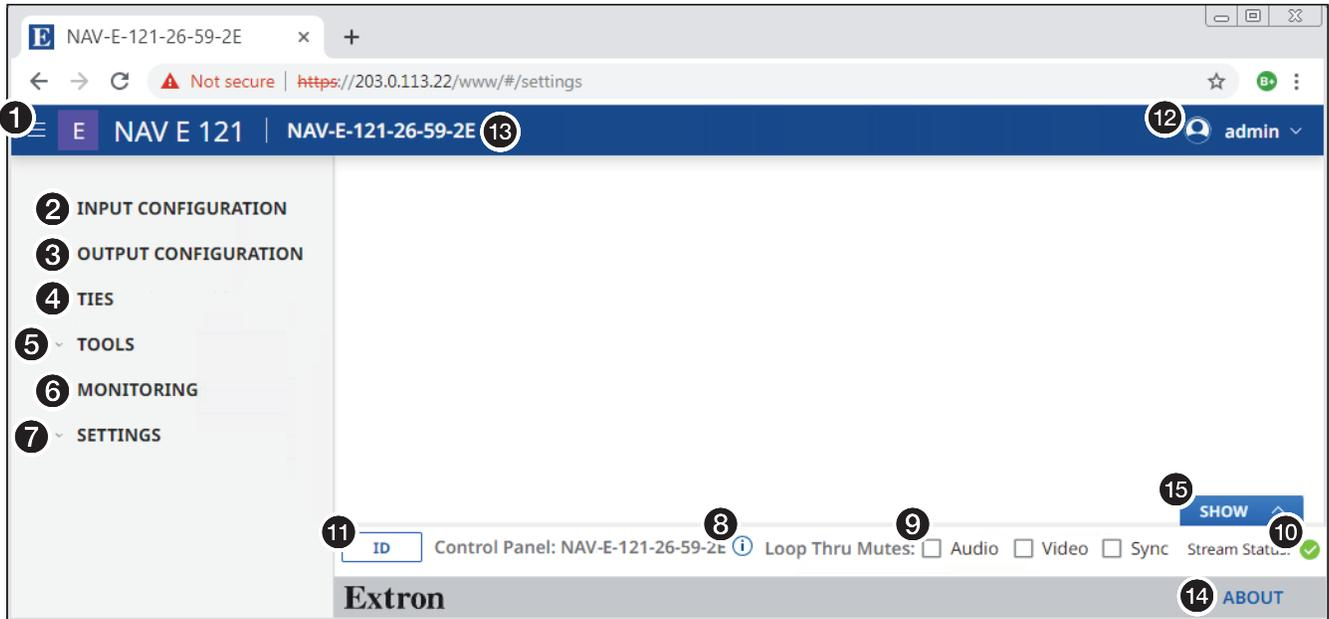
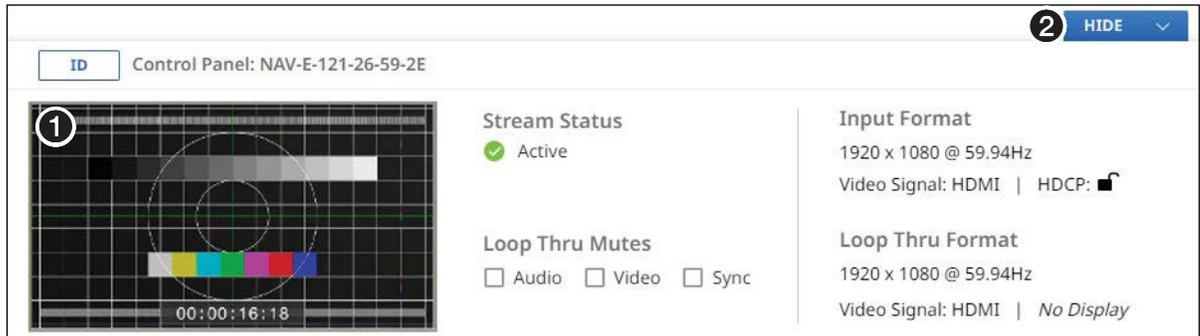

Figure 11. Home Page
Figure 12. Show Pane
4. Enter the **Username** (see figure 10, 1) and **Password** (2) and click **SIGN IN** (3). The browser opens the embedded encoder web pages (see **figure 11** on page 17).
See figure 11 and the detailed descriptions in Using the HTML Pages on page 18.
See figure 11 on page 17 and the following sections for detailed descriptions of the following pages or functions:
- 15 **Show button** (see figure 11 on page 17) — Opens a pane that displays the format, resolution, and rate of the input and LOOP OUT output. If Confidence Preview is enabled (see Confidence Preview page on page 51) the pane displays the confidence preview of the encoder (see figure 12, ①). Click **Hide** (②) to close the pane.